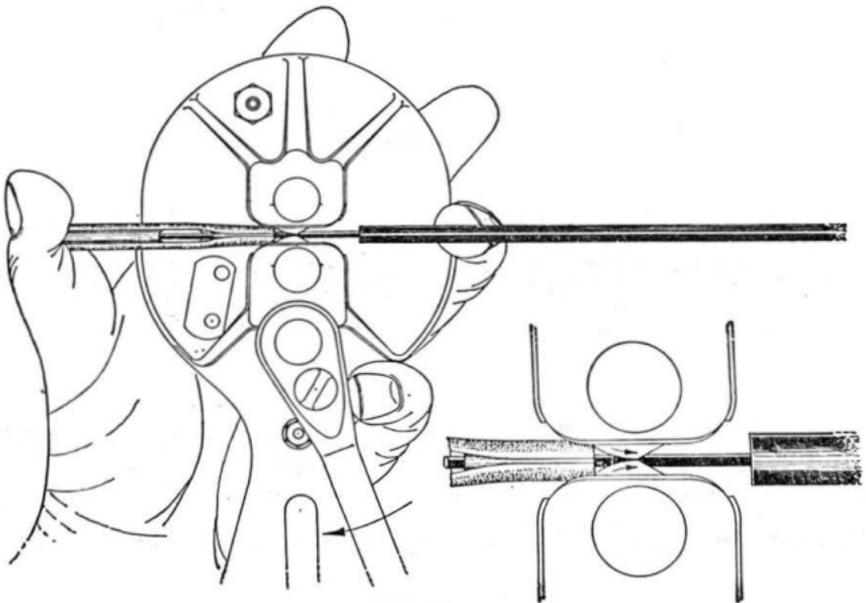

FIG. 7
(3) Place sleeve in sleeve rolling tool as shown in Fig. 7. Use middle groove. Use the large groove for the 165← copper bridging sleeve.